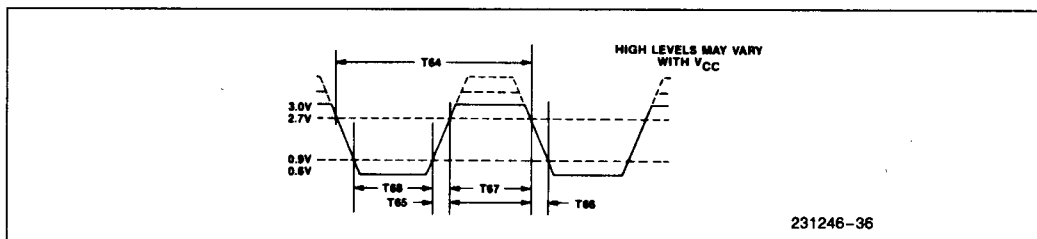

Figure 35. $\overline{RxC}$ Input Voltage Levels for Timing Measurements *
15. 82C501 compatible levels, see Figure 35